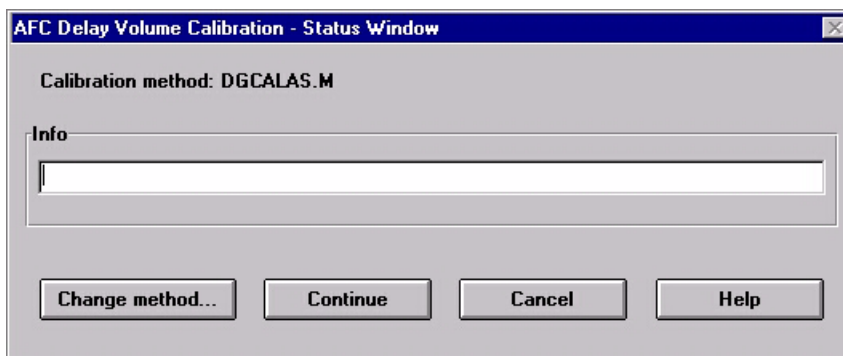

Figure 4 AFC Delay Volume Calibration window
- 6 Open the AFC Delay Volume Calibration status window (see Figure 4) from the Fraction Collector sub-menu of the Maintenance menu: